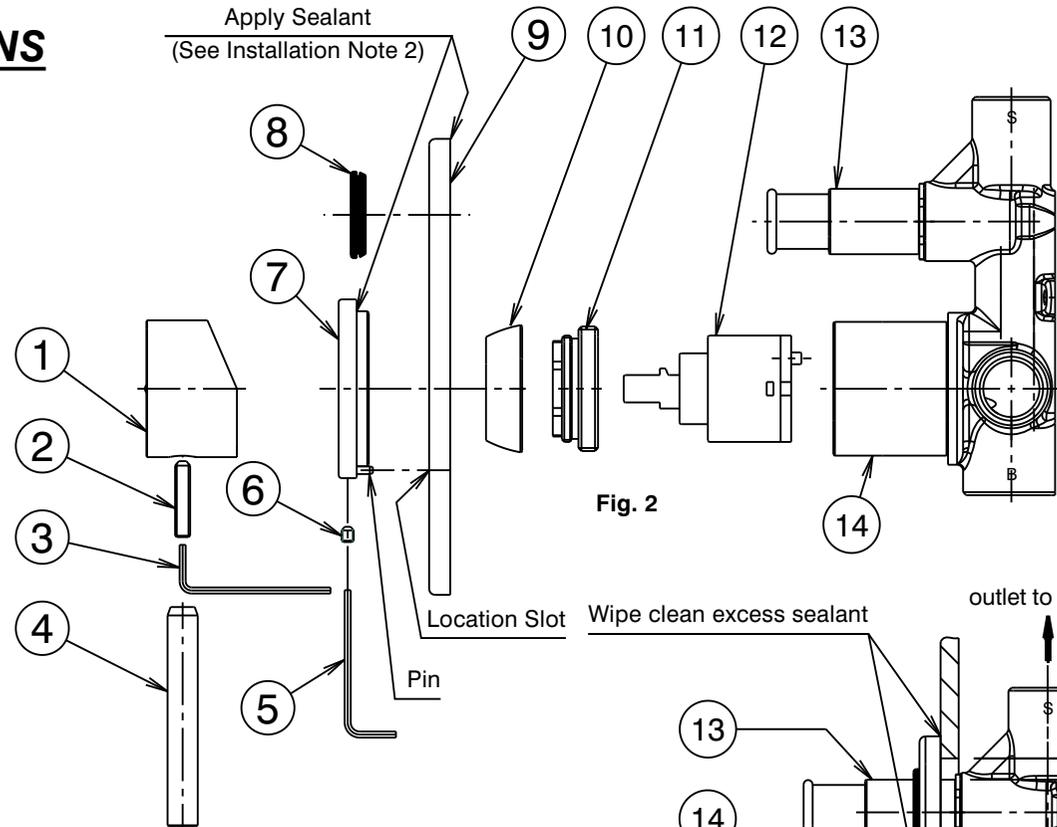
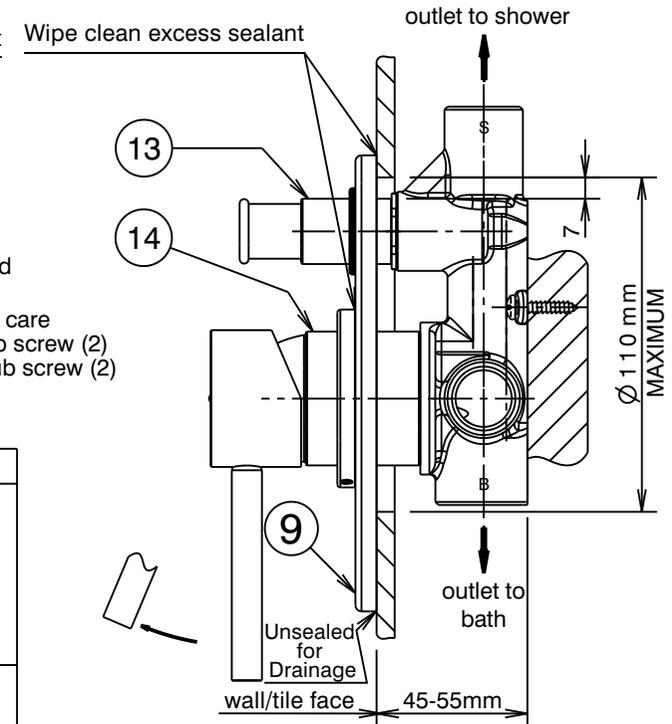

Fig. 2
Fig. 1
### Installation (Fig. 1 & 2)
- \* Mixer body (14) must be installed square to wall/tile face, to ensure cover plate (9) sits flush.
- 2) Ensure seal (8) is fitted in cover plate (9). Apply a suitable clear sealant to the back edge of the cover plate (9), leaving an unsealed section at the bottom for drainage. Apply a suitable clear sealant in the corner around the location diameter of the retaining ring (7), to prevent water entering the wall cavity (See Fig. 2). Carefully slide the cover plate (9) onto the diverter sleeve (13) and position close to the wall/tile face. Fit retaining ring (7) onto the mixer body (14), and slide towards the cover plate (9) ensuring the pin in the retaining ring (7) is engaged in the location slot in the cover plate (9). Push the retaining ring and cover plate firmly against the wall/tile face and tighten screws (6) using 2mm allen key (5). Wipe clean any excess sealant from the external surfaces of the mixer & the wall/tile face (See Fig. 1).
- 3) Fit handle (1) as shown, taking care that it is pushed fully onto cartridge stem, then tighten grub screw (2) using 2.5mm allen key (3). Screw handle lever (4) onto grub screw (2) and tighten by hand.
### Replacing Cartridge (See Fig. 2)